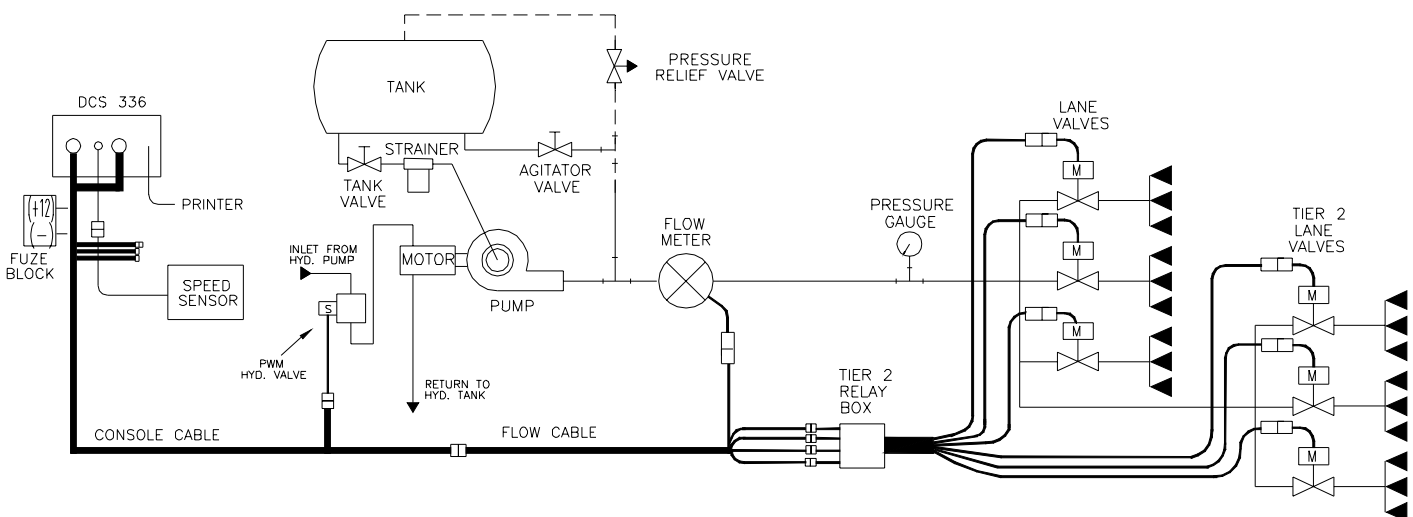

FIGURE 5
- 1) Mount Flow Meter in the area of the liquid control per Figure 5. All flow through Flow Meter must go to nozzles only, i.e., no return line to tank or pump after Flow Meter.